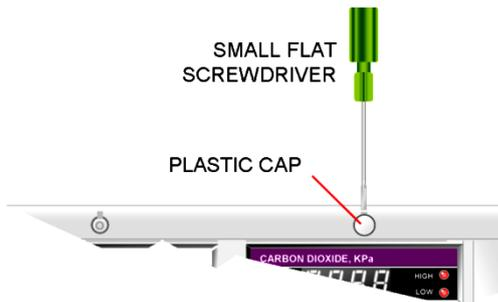

Figure 2.10 Removal of Plastic Cap
- Step 2** Carefully detach two screw caps at the top edge of the system (see Figure 2.10). Remove the fastening screws and swing down the module assembly to its horizontal position (see Figure 2.6).